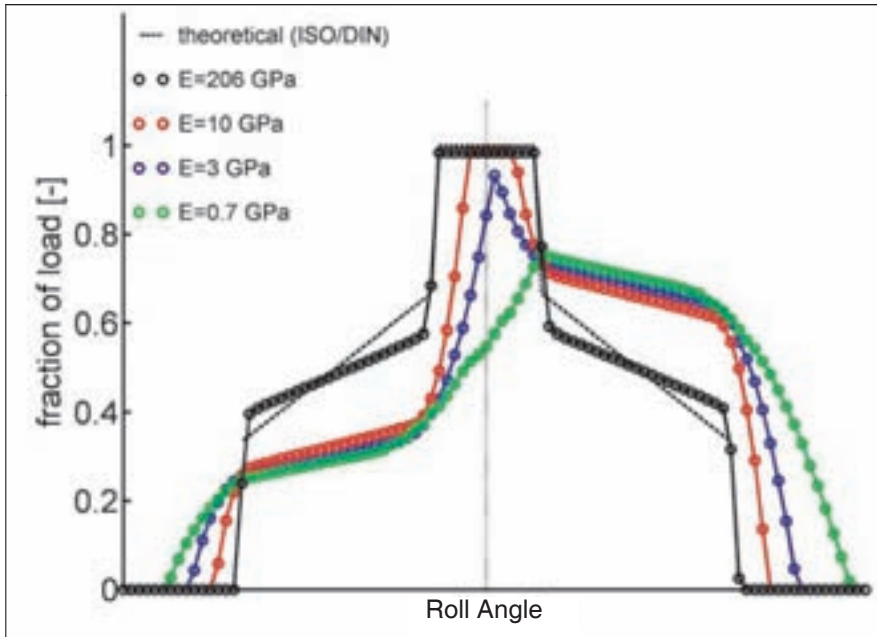

Figure 5—Root stress as a function of the roll angle for a steel pinion meshing with gears of various materials (moduli).
**Root Stresses.** By using FEA, the root stresses of a single tooth can be monitored during meshing. Figure 5 shows the root stress as a function of the roll angle for a steel pinion meshing with gears of various materials. Similar regions can be recognized, as
As the load fraction carried by a single tooth determines the level of the root stress, the fact that the load sharing becomes skewed for plastic gears is expressed in the root stresses. The root stresses are considerably lower in the first stage of the meshing cycle compared to steel gears, and are considerably higher at the last part of the meshing cycle. Depending on the contact ratio and thus modulus, a period of single-tooth contact is achieved during which the root stresses become high. As can be seen in Figure 5, the level of root stresses reached in the single-tooth contact period follows the same trend as those found in steel gears.